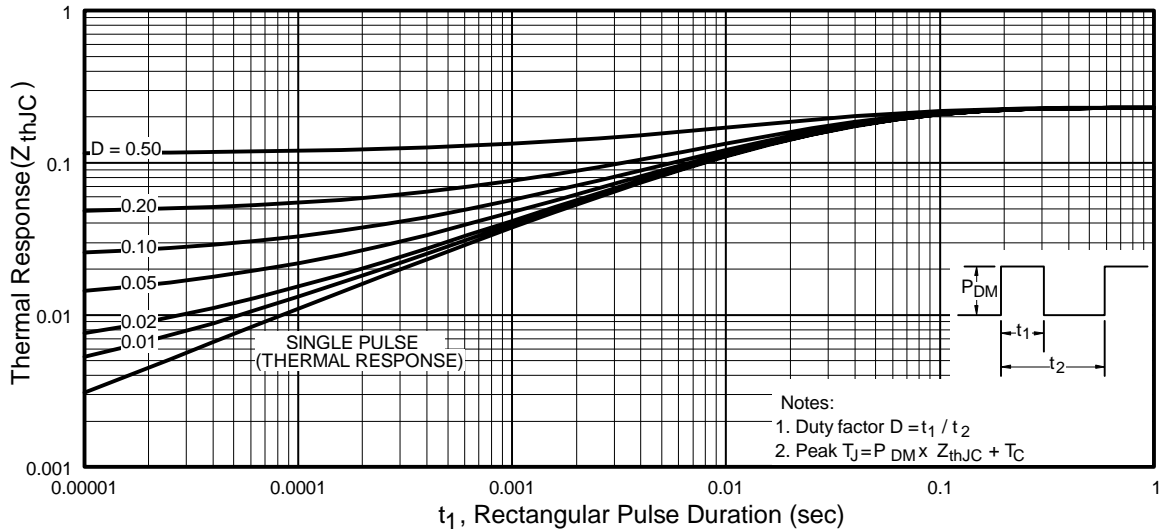

Fig 11. Maximum Effective Transient Thermal Impedance, Junction-to-Case
- ① Repetitive rating; pulse width limited by max. junction temperature. (See Fig. 11).